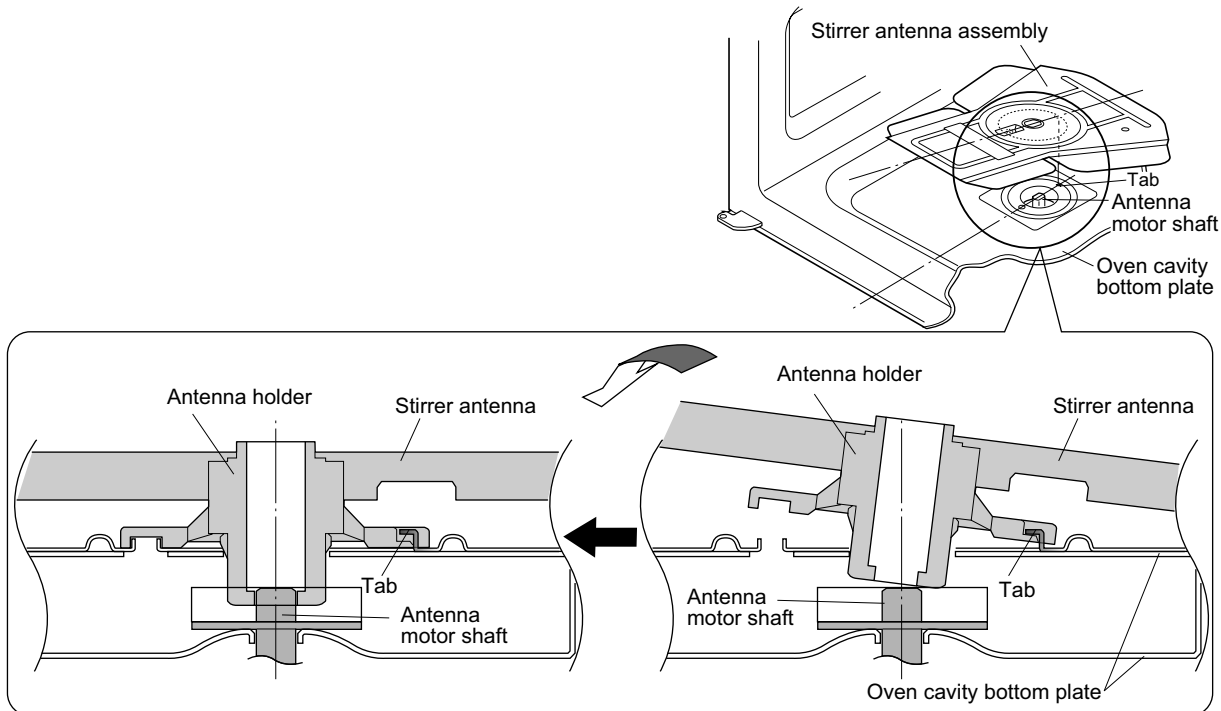

Figure C-10. Stirrer Antenna Assembly Installation
3. Hook the hole of the antenna holder on the tab of the oven cavity bottom plate. Refer to Figure C-10.
4. Insert the antenna holder into the hole of the oven cavity bottom plate and fit the hole of the antenna holder with an antenna motor shaft. Refer to Figure C-10.